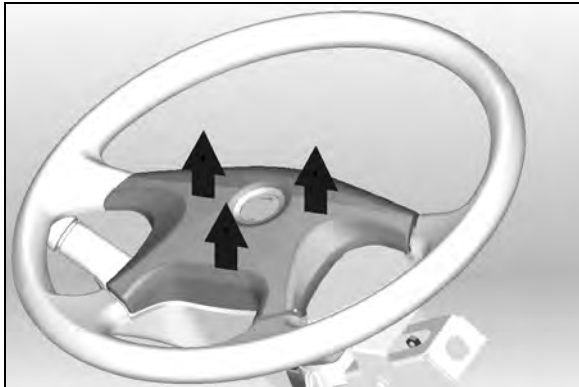

FIGURE 10: REMOVING THE HORN PAD
2. Pull the horn pad straight up gently to detach it from the steering wheel (Figure 10).